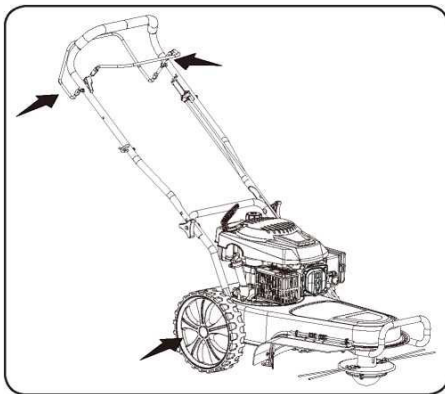

Figure 6.1
1. Lubricate the pivot points of the control lever at least once a season with oil. The lever should be free to move both forward and backward. See Figure 6-1.
2. Lubricate the wheels at least once a season with lubricating oil (or motor oil). If the wheels are removed for any reason, lubricate the axle bolt surface and the inner surface of the wheel with lubricating oil. See Figure 6-1.